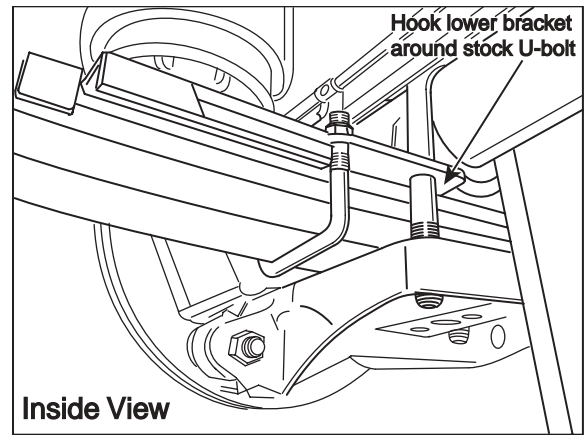

Figure 5
2. Hook the "finger" of the bracket around the inside of the rear u-bolt (Figure 5).
4. Place a $\frac{5}{16}$ " nut (GG) and a star washer (FF) on the air valve. Leave enough of the inflation valve in front of the nut to extend through the hole and have room for the rubber washer (EE), flat washer (DD), and $\frac{5}{16}$ " nut (GG) and cap (CC). There should be enough valve exposed after installation - approximately $\frac{1}{2}$ " - to easily apply a pressure gauge or an air chuck (Figure 5).
5. Push the inflation valve through the hole and use the rubber washer (EE), flat washer (DD), and another $\frac{5}{16}$ " nut (GG) to secure it in place. Tighten the nuts to secure the assembly in place (Figure 5).
6. Route the air line along the frame to the air fitting on the air spring. Keep at least 6" of clearance between the air line and heat sources, such as the exhaust pipes, muffler, or catalytic converter. Avoid sharp bends and edges. Use the plastic tie straps (BB) to secure the air line to fixed, non-moving points along the chassis. Be sure that the tie straps are tight, but do not pinch the air line. Leave at least 2" of slack to allow for any movement that might pull on the air line.